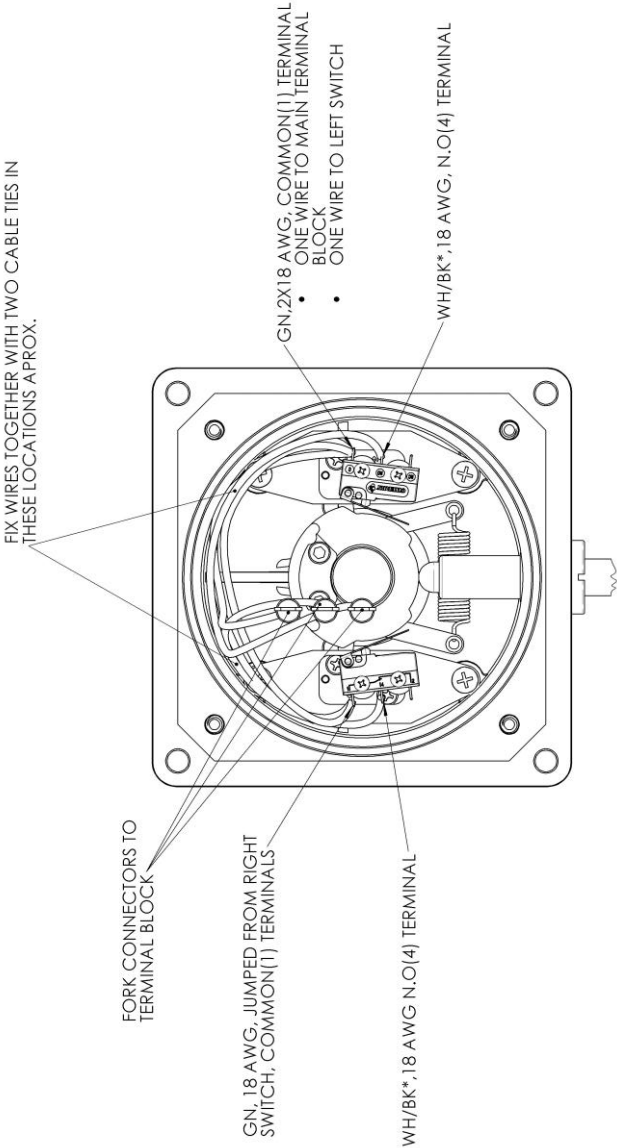
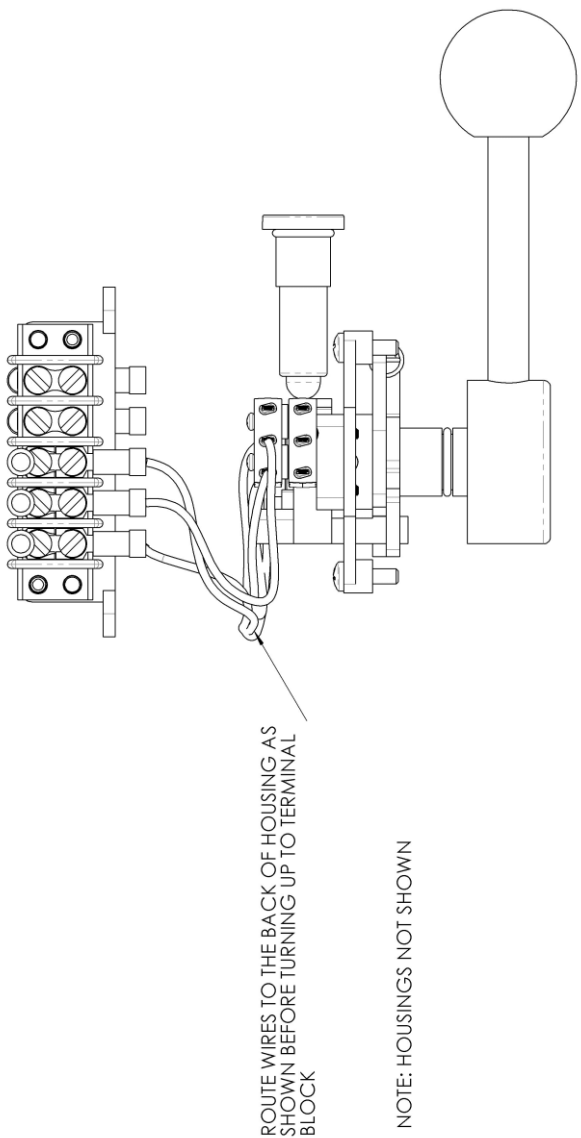

Figure 23: Wiring diagram from upper switches
Figure 24: Wiring diagram for upper switches, main terminal block
For upper switches, it is recommended to route the wires as shown in Figure 23 and Figure 24. For lower switches, the same path can be followed except the wires go to the right side terminal block.
19. Use X2 plastic cable ties to secure the routed wires together in the positions indicated in Figure 23.